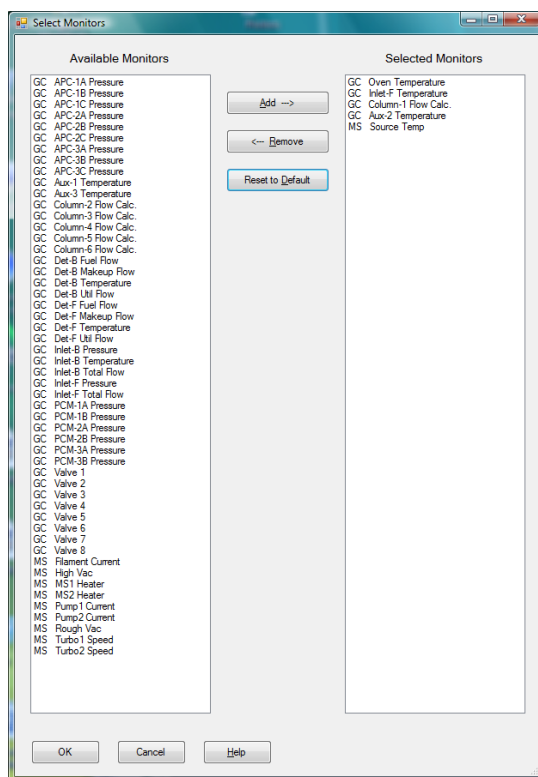

Figure 6 Select Monitors dialog box
- 1 Select **Method > Edit Monitors** to display the **Select Monitors** dialog box. See Figure 6.